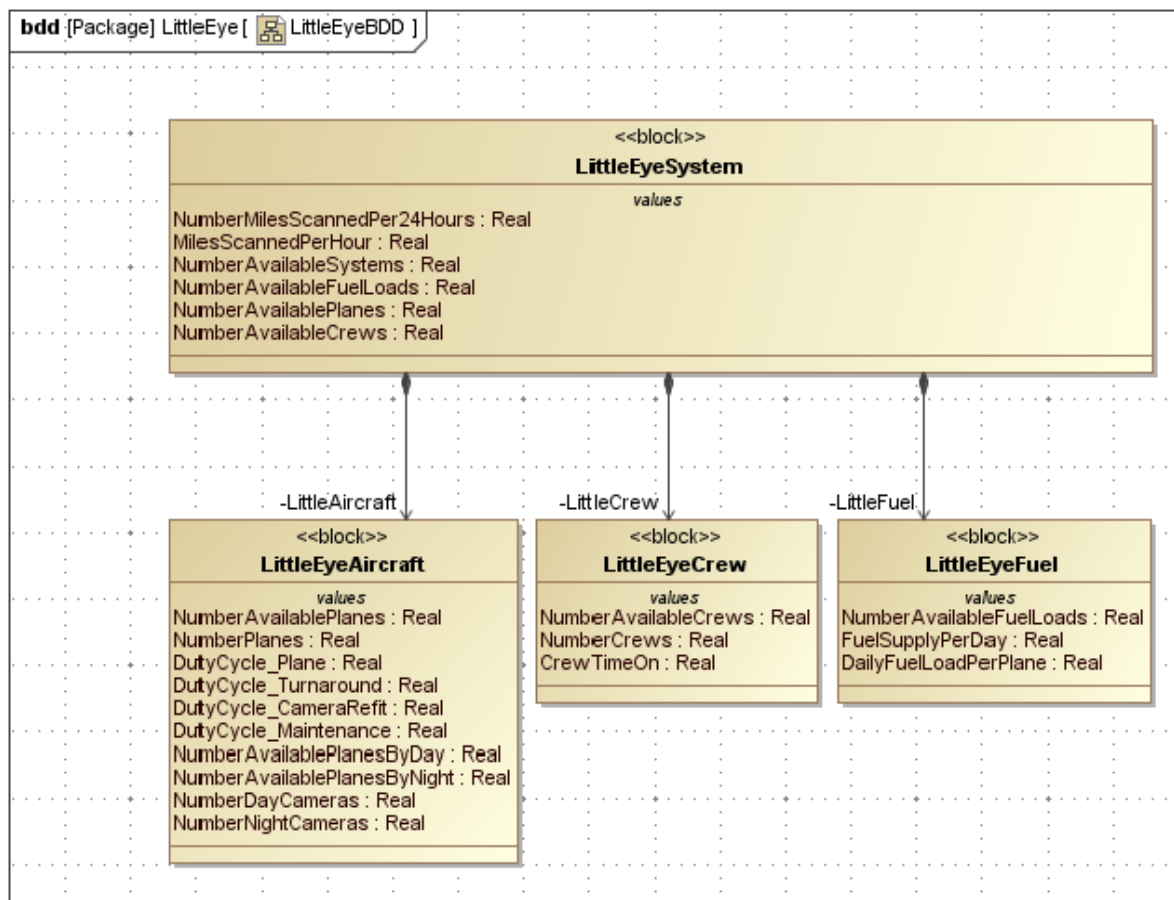
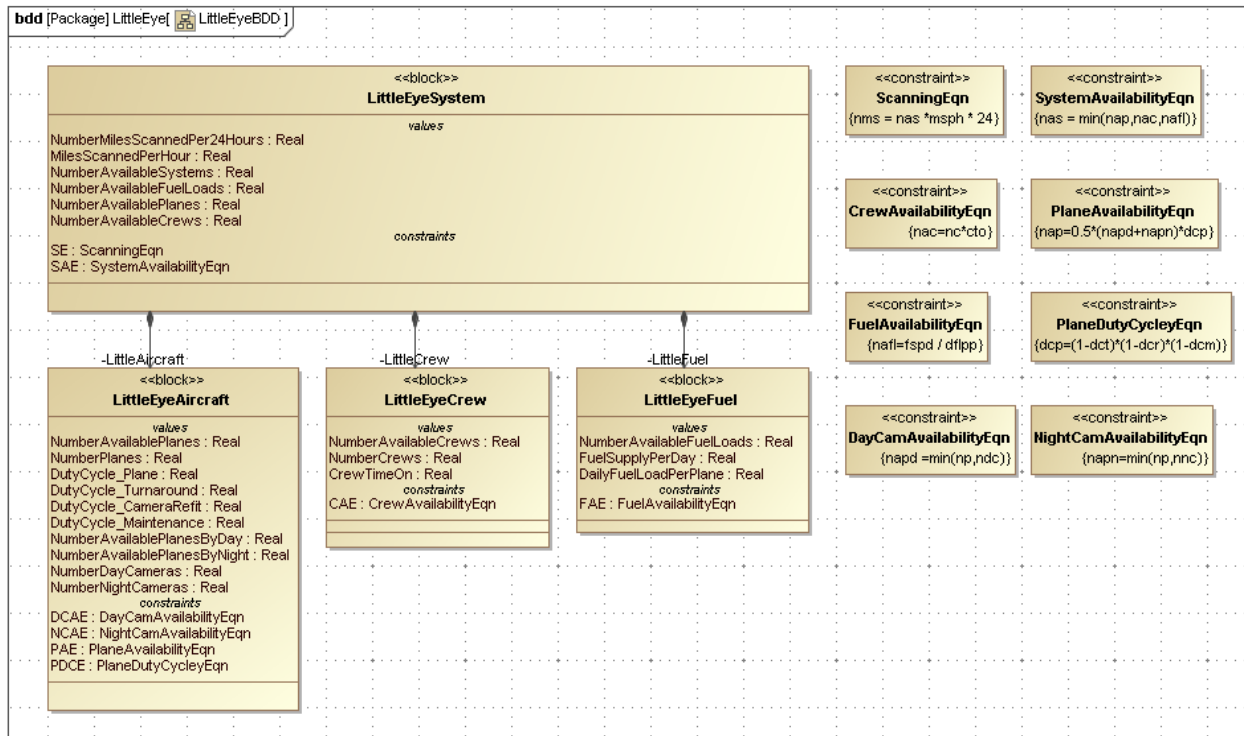
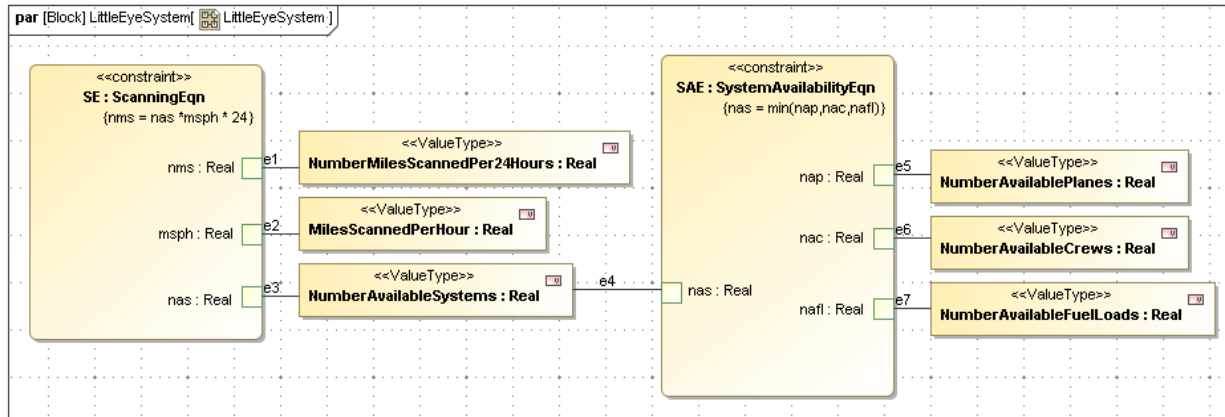

Figure 4.2 Structural Elements in Block Definition Diagram LittleEyeBDD
Figure 4.3 Block Definition Diagram with Constraints and Model added
Figure 4.4 LittleEyeModel Parametrics Diagram
4. Create a Block Definition Diagram containing the four structural elements with attributes as shown in Figure 4.2
5. Inside the **LittleEye** package, create eight constraint blocks, which contain the eight mathematical relationships appearing in Figure 4.1, using the procedure described in the earlier tutorials. Figure 4.3 shows the eight constraint blocks displayed on the right side of the **LittleEye** Block Definition Diagram. The parameter list has been hidden for the constraint blocks by selecting Presentation Options→Suppress Parameters, Operations, Attributes on each block.
6. Using an “object-oriented” programming approach, the four elements of Figure 4.2 will be converted into independent submodels containing internal constraints and relationships. Each sub-model could be modified without damaging the larger system model. It could also be copied and reused in a different project.
- a. The submodel **LittleEyeSystem** will contain the six values listed in Figure 4.3 plus two constraints that connect them, the **Scanning Equation** and the **System Availability Equation** at the top right of Figure 4.2. See Figure 4.4.
- vi. Using connectors, wire the value properties and constraint parameters as shown in Figure 4.4.